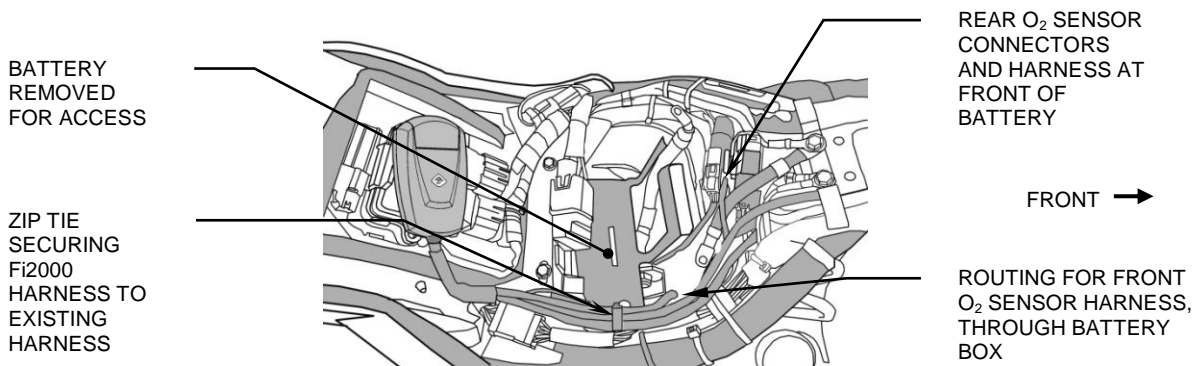

FIGURE 3
6. It is now time to install the oxygen (O₂) sensor harnesses. Disconnect ground lead first and then positive lead from battery. Remove the battery for access to the area underneath it and to aid in harness installation. Route the longer O₂ sensor harness down through the front of the battery box opening and out the front right side, Figure 3. Continue to route it to the right rear frame next to the swing arm mount and down past the rear of the transmission, then forward along the lower right frame rail to the voltage regulator.